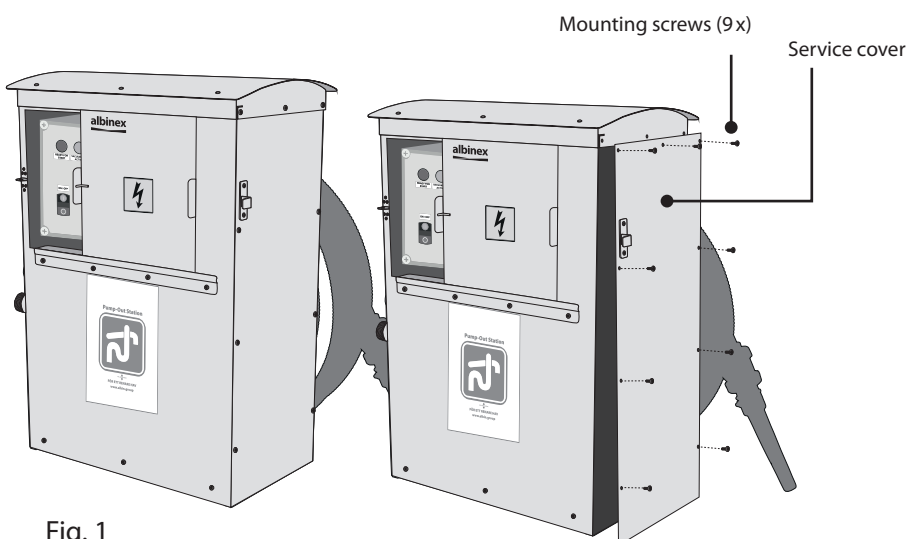

Fig. 1
- 2) Unscrew the nine (9) mounting screws holding the service cover on the narrow side of the Station, opposite the side with the suction and discharge hose connection ports. (See Fig. 1)
- 6) Replace the service cover and secure it with the 9 mounting screws. (See Fig. 1)
- 1) Unscrew the nine (9) mounting screws holding the service cover on the narrow side of the Station, opposite the side with the suction and discharge hose connection ports. (See Fig. 1)
- 9) Replace the service cover and secure it with the nine mounting screws. (See Fig. 1)